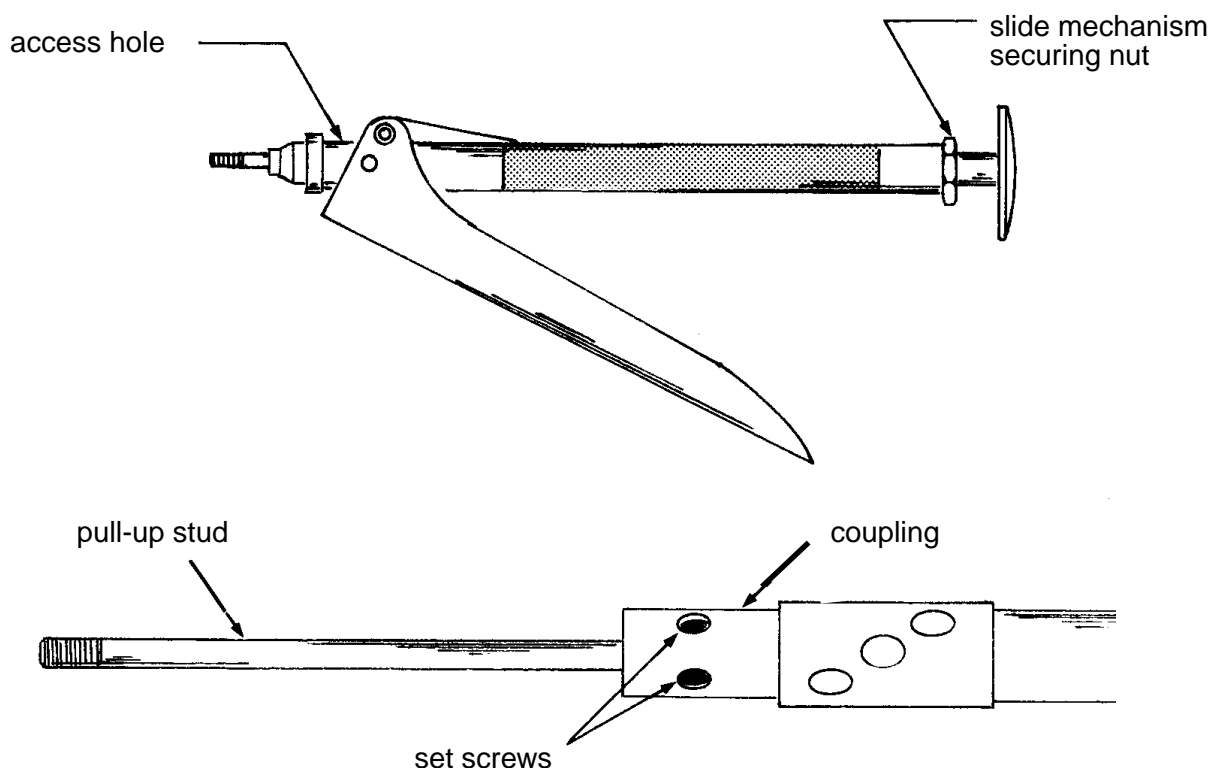

Figure 8 - Adjusting C-5000 Speed Header
5.6.2 Adjust the stud length on the C-5000 speed header as follows (see Figure 8):